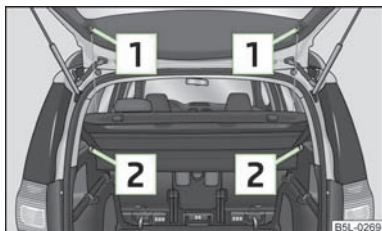

Fig. 58
- Unhook the support straps **1** » Fig. 58.